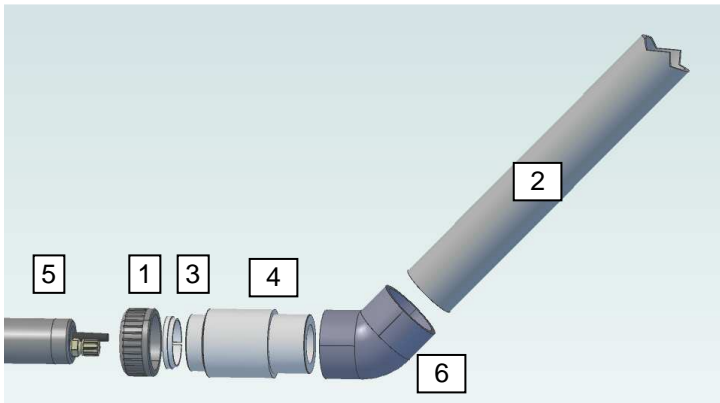
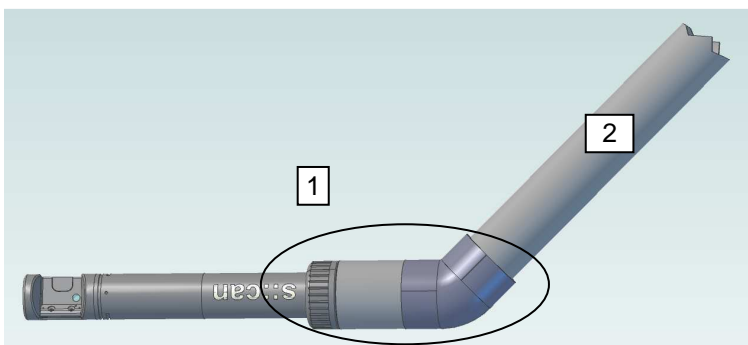

Fig. 6-4: Mounting with probe carrier
Fig. 6-5: Final assembly in carrier
1. Normally the carrier is shipped assembled as shown within the circle in Fig. 6-5. In case the carrier is not assembled position the parts as shown in Fig. 6-4 and assemble parts 1, 3, 4, 6. Parts 4 and 6 shall be glued together.
4. Now slide the i::scan into the carrier and fix it using the lock. The final assembly should look like Fig. 6-5.